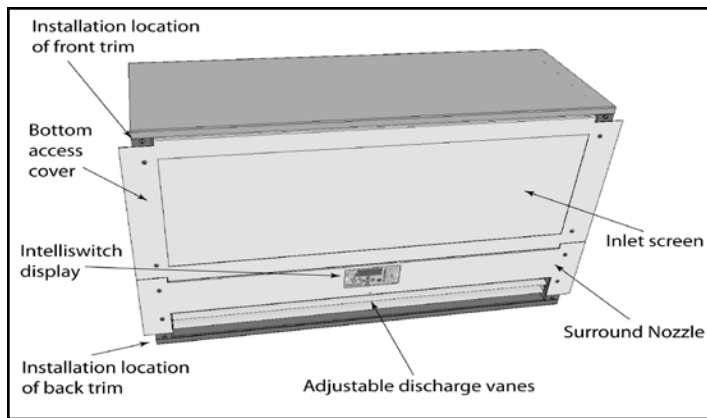

Figure 2
3. The unit is shipped without the front and back trim installed to protect it from shipping damage. This trim need not be installed until after the unit is hung. **See Figure 2.**